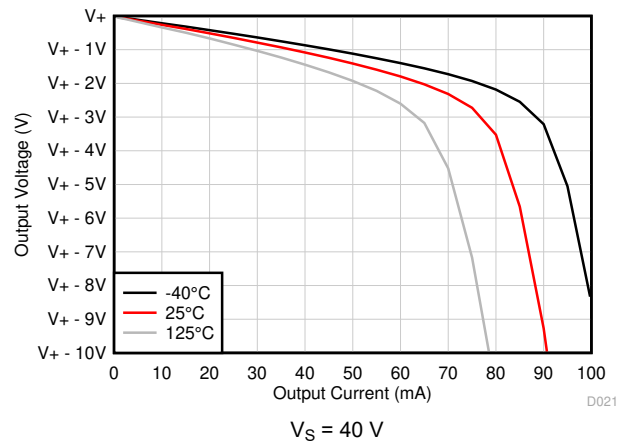

Figure 5-12. Output Voltage Swing vs Output Current (Sourcing)
- (1) Specified by characterization only.
- (2) At high supply voltage, placing the TLV936x in a sudden short to mid-supply or ground will lead to rapid thermal shutdown. Output current greater than I_{SC} can be achieved if rapid thermal shutdown is avoided as per Figure 5-12.